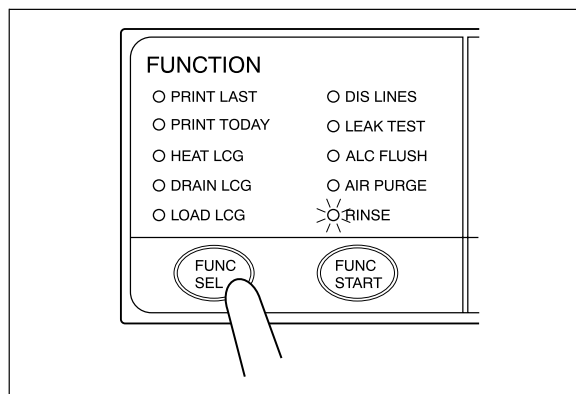

Figure 7.39
10. Press the FUNC SEL button on the subcontrol panel to select "RINSE" (see Figure 7.39).